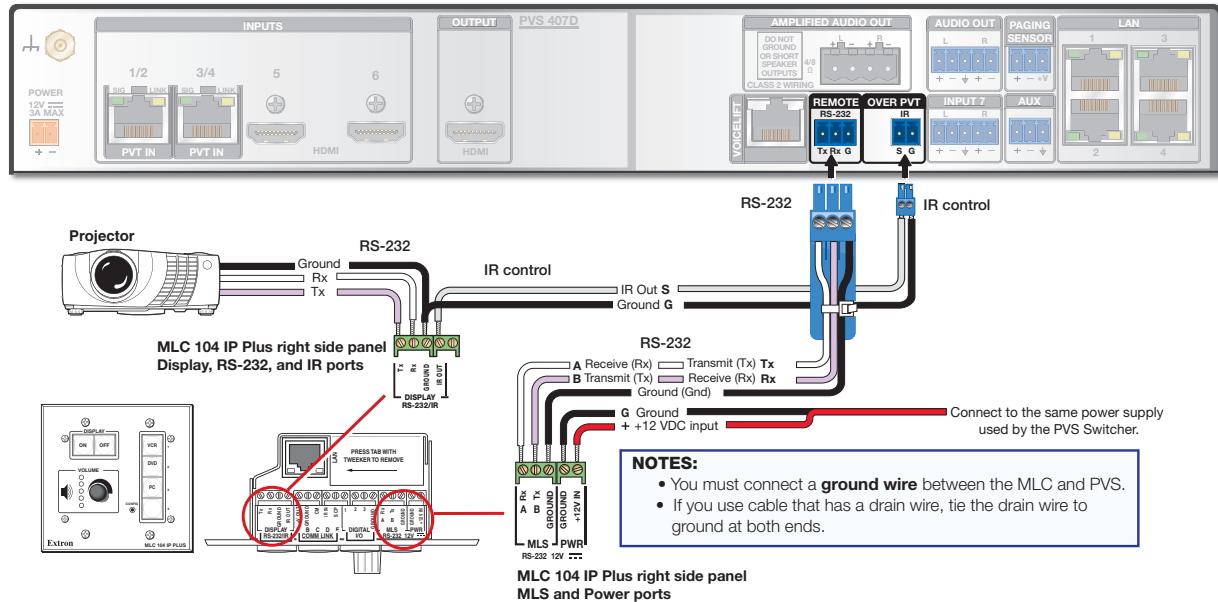

Figure 3. MLC 104 IP Plus RS-232 and IR Connections to the PVS 407D
- J Remote RS-232 control port** — Connect a host computer, control system, or MLC controller to this 3.5mm captive screw 3-pole connector for direct switcher control via RS-232 (see figure 3 below).
- K Over PVT (IR insert port)** — For IR control for a source device, connect the IR Out port on the MLC to this 3.5 mm captive screw 2-pole connector (see figure 3 below). This routes IR transport control signals via an IR device connected to the PVT wallplate front panel.